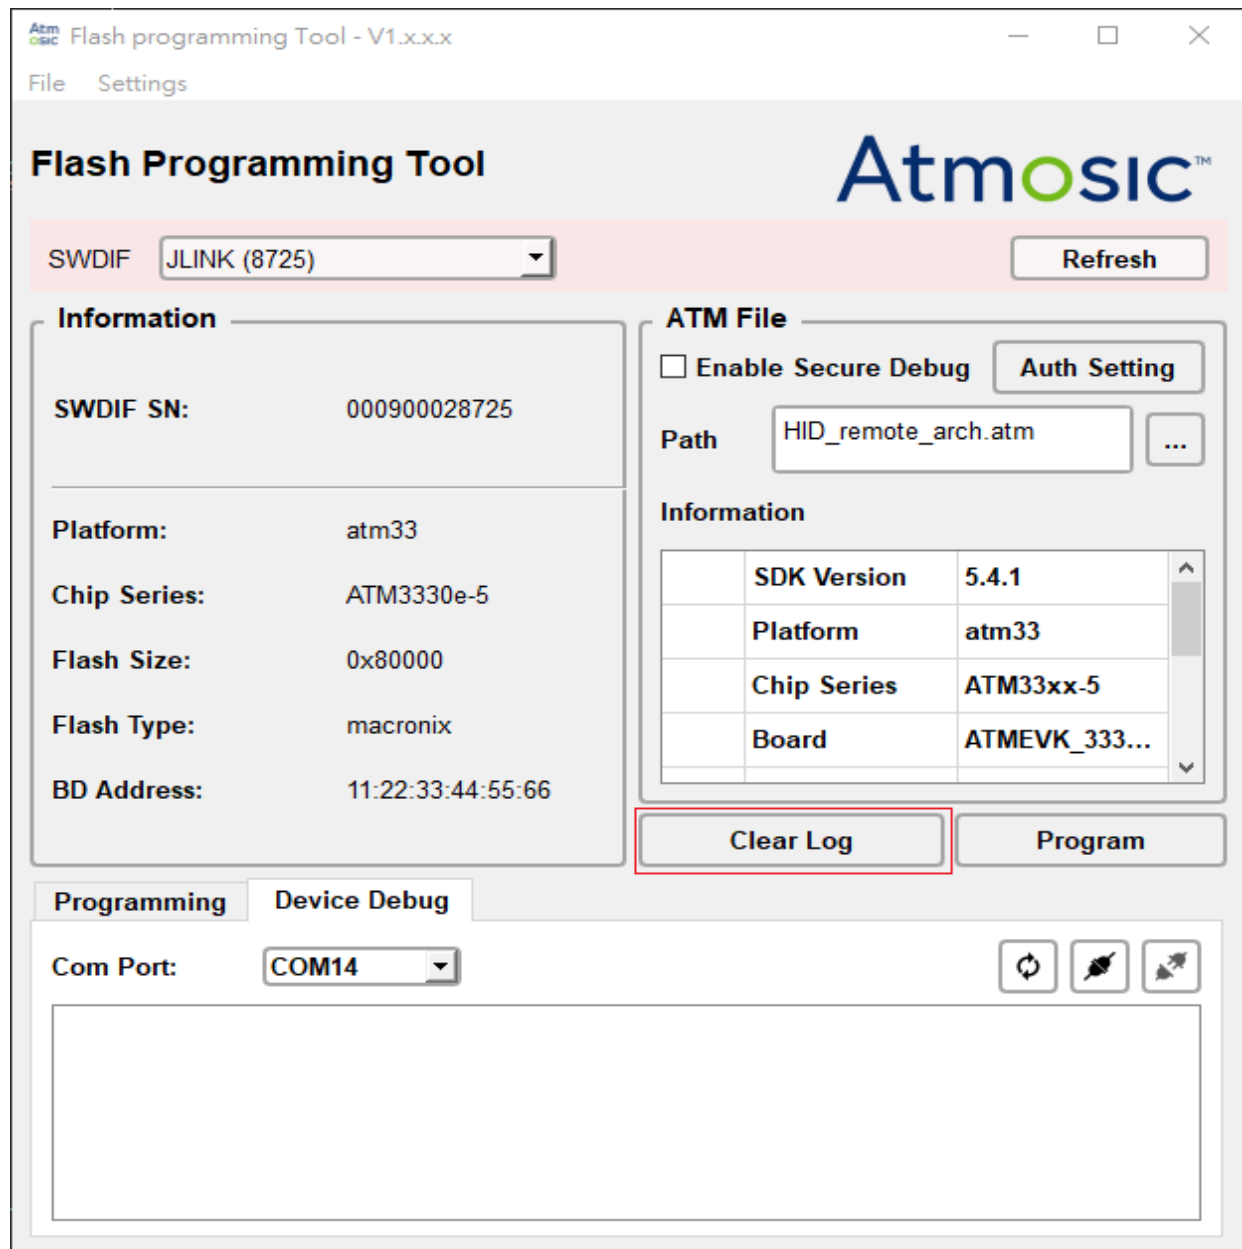

Figure 3-4 Clear Log in Main GUI
- Figure 3-4 Clear Log in Main GUI